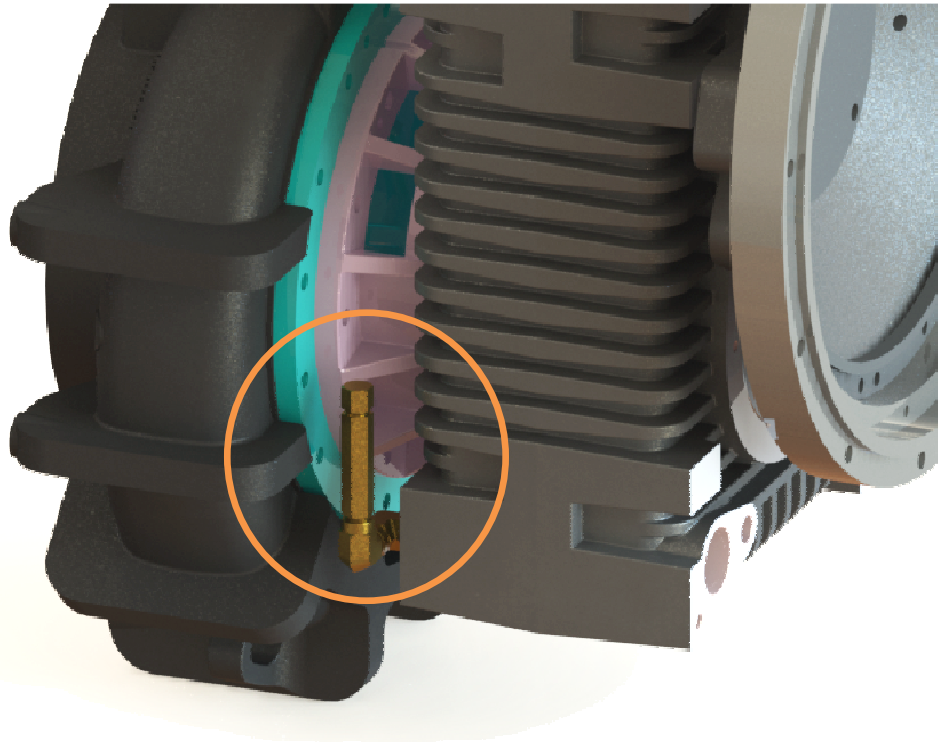

Figure 2 - Oil Fill Level Assembly - Retrofit Kit Install Check
- a. If your 80FCK gearbox has the pipe assembly shown in Figure 2 below, you already have the retrofit gearbox oil level assembly installed. This assembly will have brass components and typically not painted to match your pump.